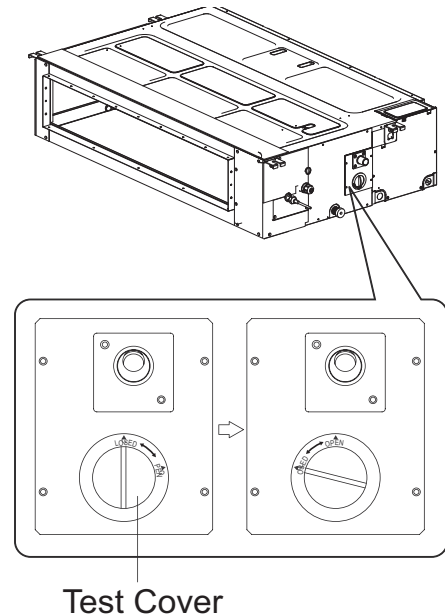

Fig. 27 —Test Cover
1. Remove the test cover by rotating it counter-clockwise as shown in Fig. 27.